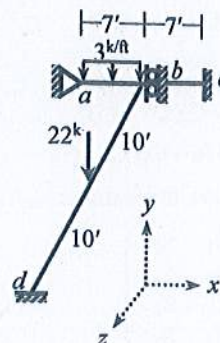

Fig. 3
- Use stiffness method to calculate rotations (θ_x , θ_z) of joint **a** and deflection (u_y) of joint **b** of the grid system **abcd** loaded as shown in **Fig. 3**